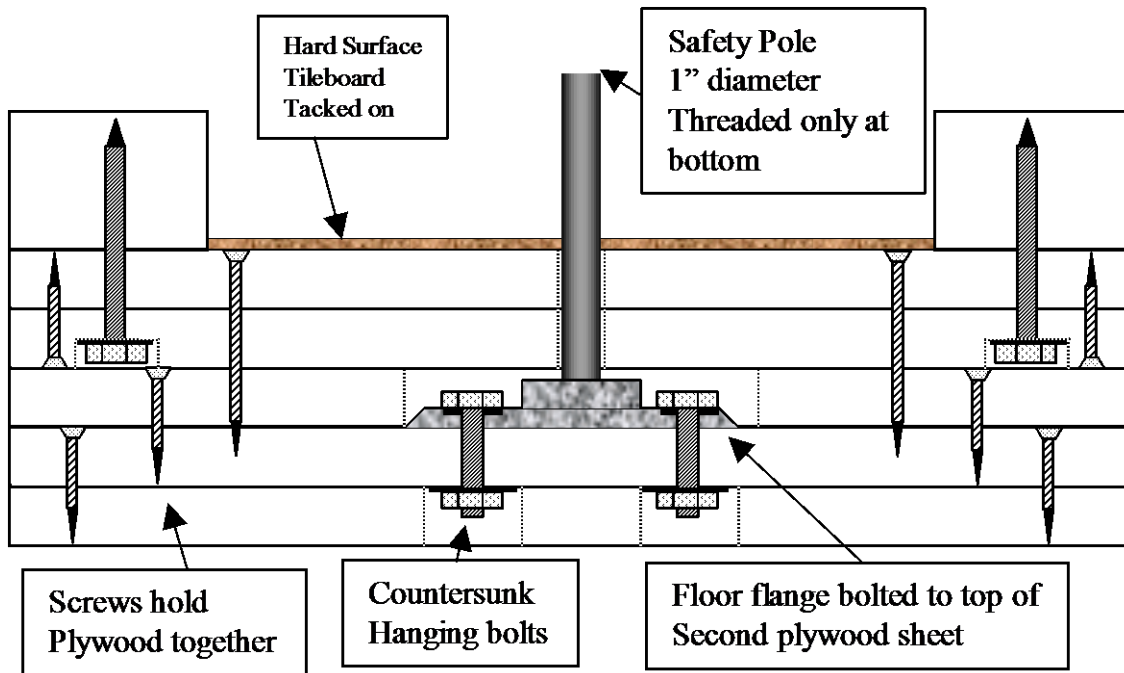

Figure 3 Side view of tester base showing 5 layers and position of flange
The Tester Base is basically built around a 1" (outer diameter) pipe floor flange. The floor flange is needed to hold the Safety Pole perpendicular to the surface of the Tester Base. The Safety Pole is a 27" long piece of 1" (OD) pipe threaded at one end and screwed into the floor flange. This length is highly dependent on the "HEIGHT OF TESTER POLE" as described in the challenge. There are sometimes two 12" pipe extensions that slide into the main Safety Pole (but not in 2004). Smaller 6" long 3/4" OD pipe sections should be epoxied into the safety pole extensions to allow seamless joints. Like the Presser Board, the Tester Base is 18" x 18". It also has a replaceable hard surface on the side facing the Structure. Figure 3 provides a crude "exploded side view" of the Tester Base.
The loading on the Tester Base isn't as complex as the loading on the Presser Board (or Safety Supports). Consequently, MDF works almost as well as hardwood plywood for use in the Tester Base. To build the Tester Base, begin with a five 18" squares of plywood (MDF). For two boards, draw an "X" between the corners and cut holes slightly larger than the full diameter of the floor flange (2nd and 3rd board from bottom shown in Fig. 3).
On the bottom board, mark a center X and position the floor flange in the middle and rotate the floor flange so the lines of the "X" are visible through the middle of the four attachment holes of the floor flange. Mark these locations and drill 5/16" holes through the MDF. These holes allow the countersunk screw bolts that will hold the floor flange to the bottom board. The floor flanges are rarely perfectly "square" – so some "shimming" of the flange is usually needed to make the Safety Pole perfectly perpendicular to the Tester Base. The 2nd and 3rd board are fastened to this bottom board with deck screws. (see Fig. 3) Do a final tightening of the flange to the bottom board while checking squareness.
For the 4th and 5th board, mark an X in the center and drill out a hole slightly larger than the iron pipe which fits in the flange. Attach these two boards to the rest of the tester base as shown in Fig. 3.
The “simplest” method for providing a “Safety Support” is to use the “old style” 4 x 4 “corner supports” (see Figure 3). The biggest advantage of this approach is simplicity of construction. The construction process is as follows: